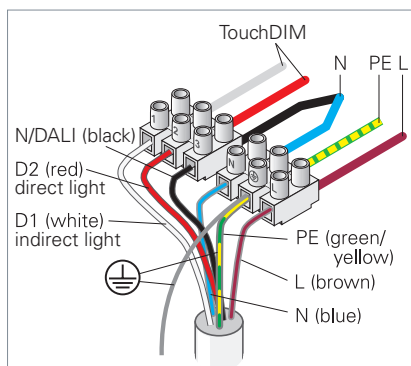

Fig. 5: Connecting the luminaire without sensors for operation with TouchDIM.
- ▶ Connect the wire rope at the connection side of the luminaire to the protective earth conductor terminal, see Fig. 5.